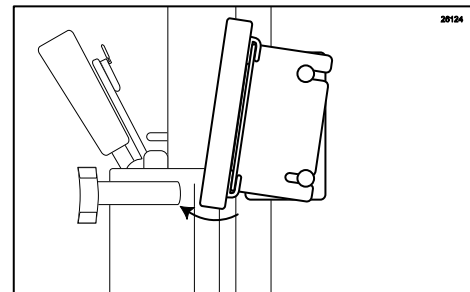

Figure 119
6. Adjust the angle of the Keypad by loosening the bottom hand knob of the bracket and swinging the keypad upward. The Keypad hinges on the upper hand knob. Secure the Bracket by tightening the hand knobs. (See Figure 119.)